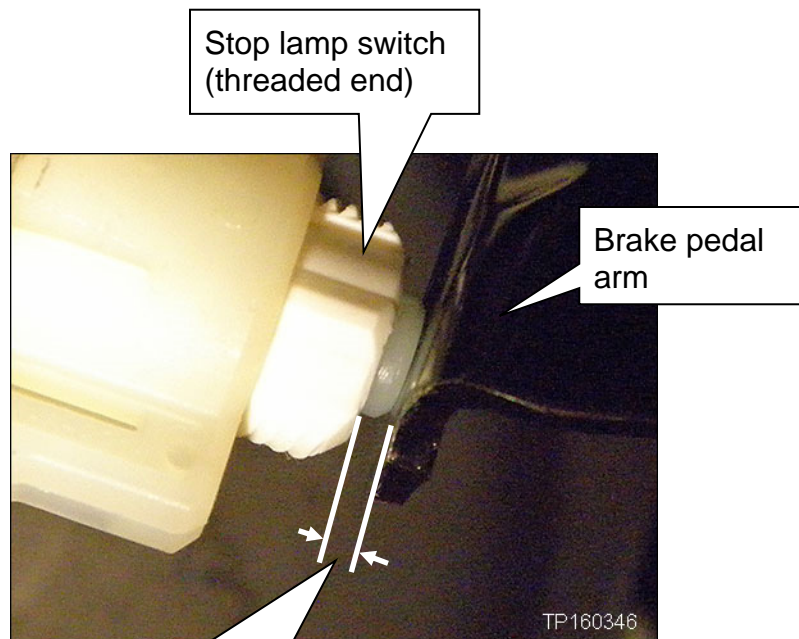

Figure 6
4. Make sure the adjustment/clearance is correct (see Figure 6).